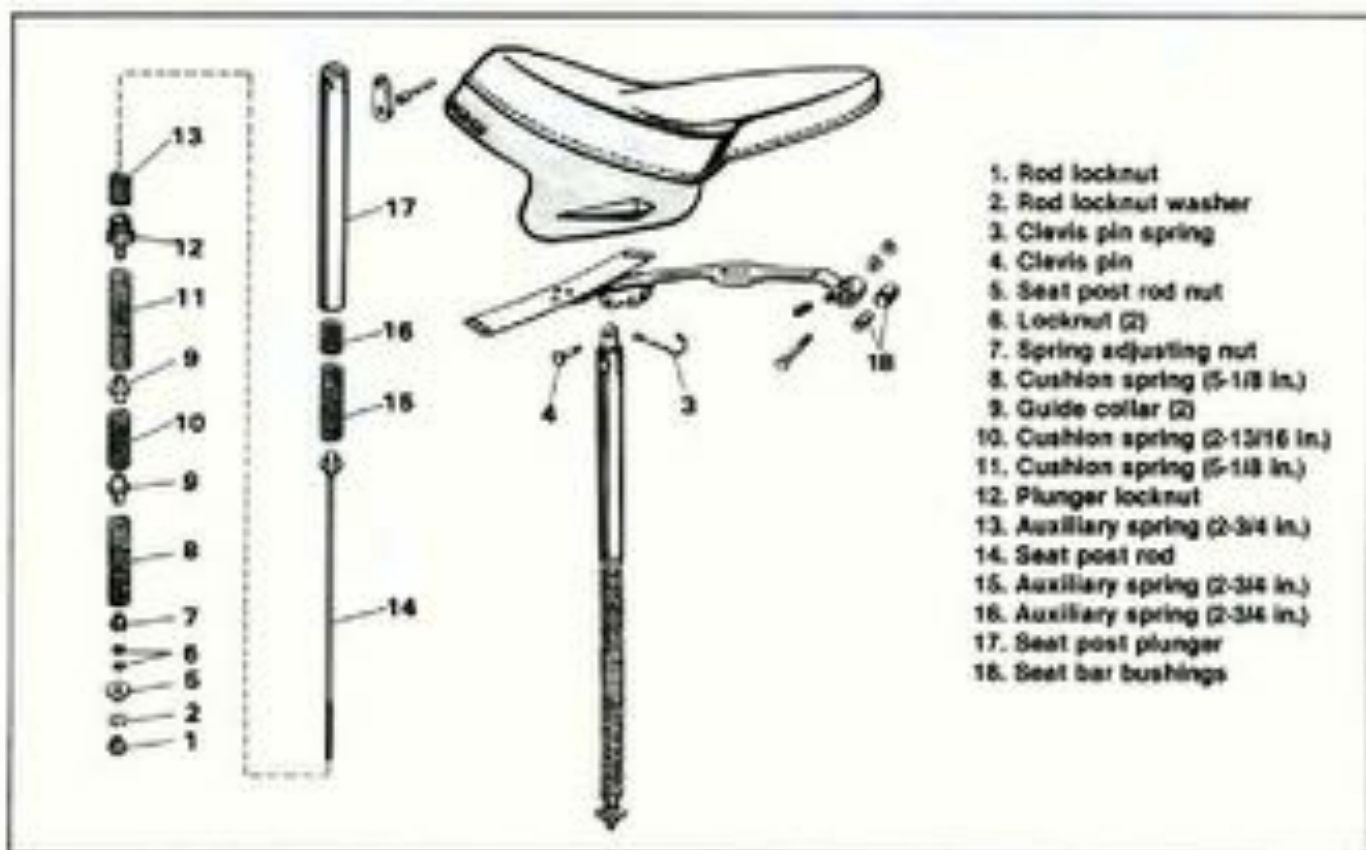

Figure 2-100. Seat Post
### SOLO SADDLE (Figure 2-100)
2. Check the spring lengths against the measurements given in Figure 2-100. Replace any springs that are worn or stretched.
3. Replace the seat bushings (18) if worn.